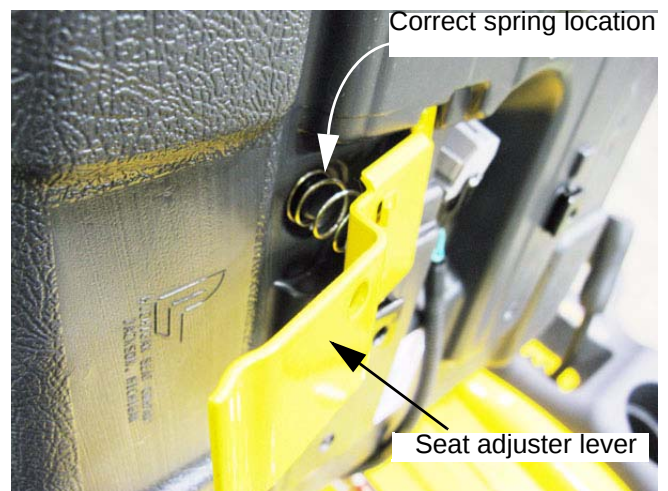

Figure 4.17
- 1f. The seat adjuster lever and spring will come easily off the bottom of the seat. See Figure 4.17.